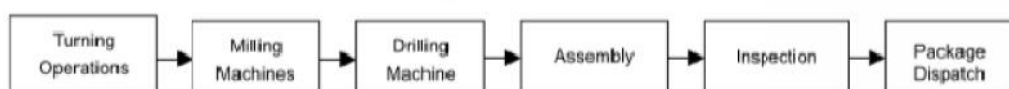

Figure 3.4: Product Layout
**Product Layout:** Machines and auxiliary services are placed according to the product's processing sequence in this layout. If a significant volume of one or more goods is produced, the facilities can be set up to ensure a smooth flow of materials and a cheaper cost per unit. Special purpose machinery is employed to complete the task swiftly and accurately. When the volume of production of a product is high enough, a separate production line to make it may be justified, and the product layout is chosen. Machines are not shared by multiple items in a rigorous product arrangement. As a result, the output volume must be sufficient to achieve satisfactory equipment utilization. Figure 3.4 depicts a typical product layout.